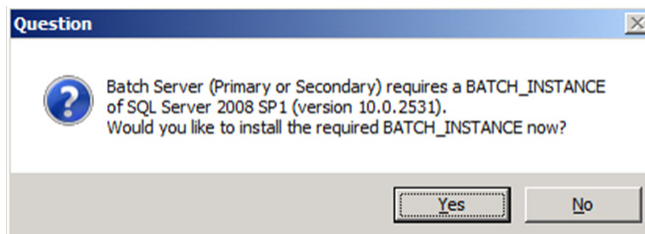
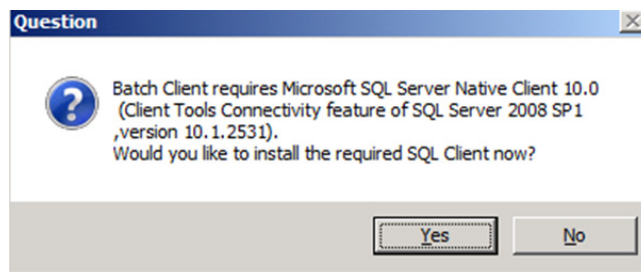

Figure 50. Message Box for Batch Management Primary or Secondary Server Installations
Figure 51. Message Box for Batch Management Client Installations
- d. **Message box:** The message box differs depending on what was selected in the Setup Type dialog box in Step a. Figure 50 shows the message box for the Batch Management Primary or Secondary Server installations and Figure 51 shows the message box for the Batch Management Client installations. Click **Yes** to continue with the installation. Proceed to Step e for Batch Management Primary or Secondary Server installations. Wait for the installation to complete for Batch Management Client installations.